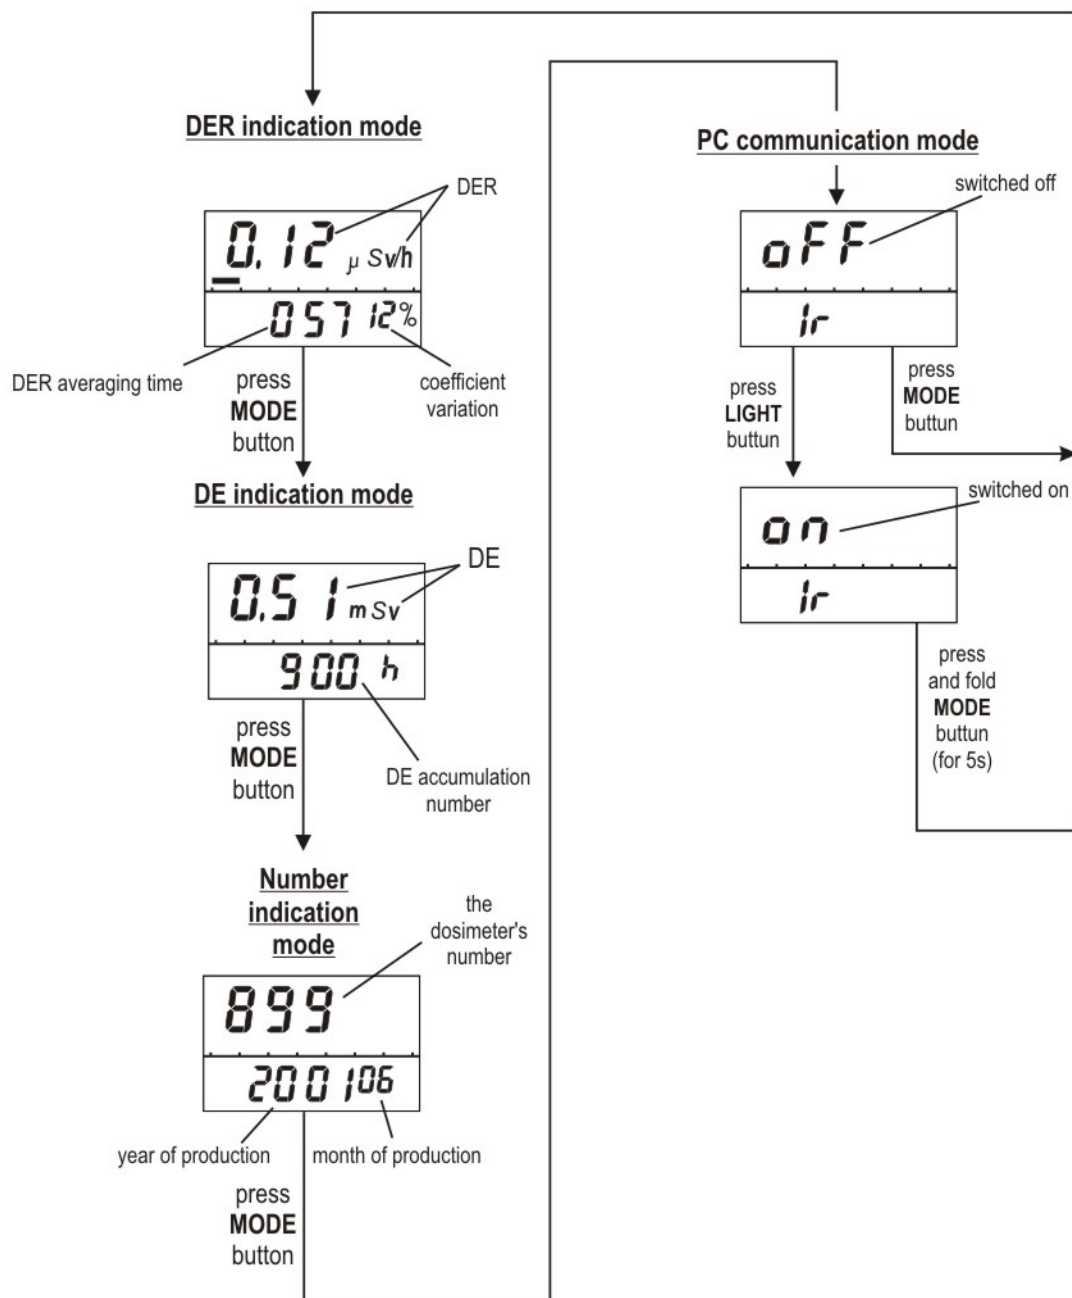

Figure 2.1 - Choice of operating mode (indication) of the dosimeter
**Modes of DER, DE, dosimeter's number and data transmission to PC indication are switched on by a successive pressing of the MODE button (figure 2.1).**
In the DER mode (figure 2.1) the following values are indicated on the LCD:
In the DE mode (figure 2.1) the following values are indicated on the LCD:
- choose the mode of data transmission to PC using the MODE button (figure 2.1);